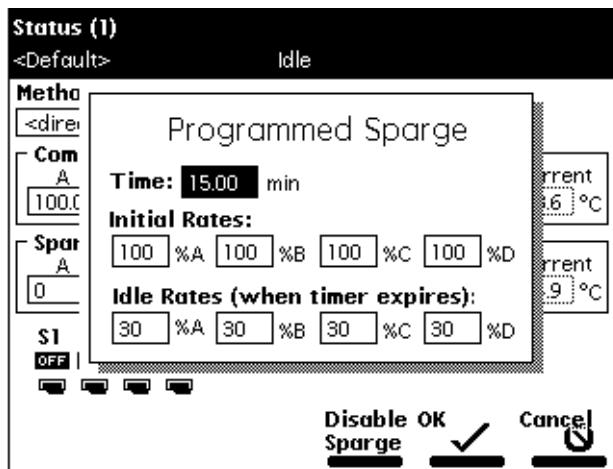

Figure 2-9 Programmed Sparge Dialog Box
2. Select the **Program Sparge** option, then press **Enter**. The Programmed Sparge dialog box appears (Figure 2-9).